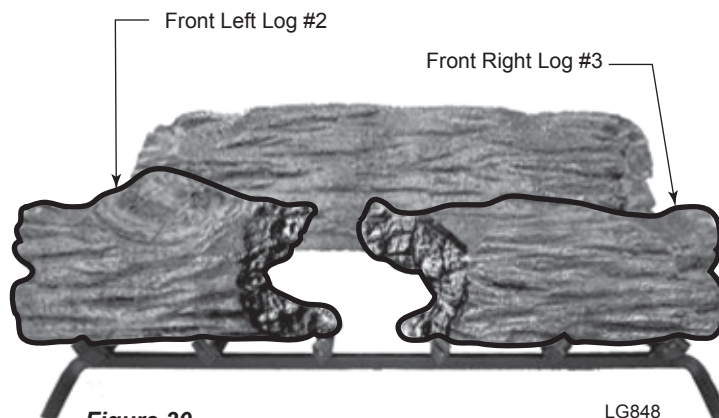

**Figure 30 -
3. Place front left log #2 on the front of the grate and to the left. *Figure 30*
4. Place front right log #3 on the front of the grate and to the right. *Figure 30*